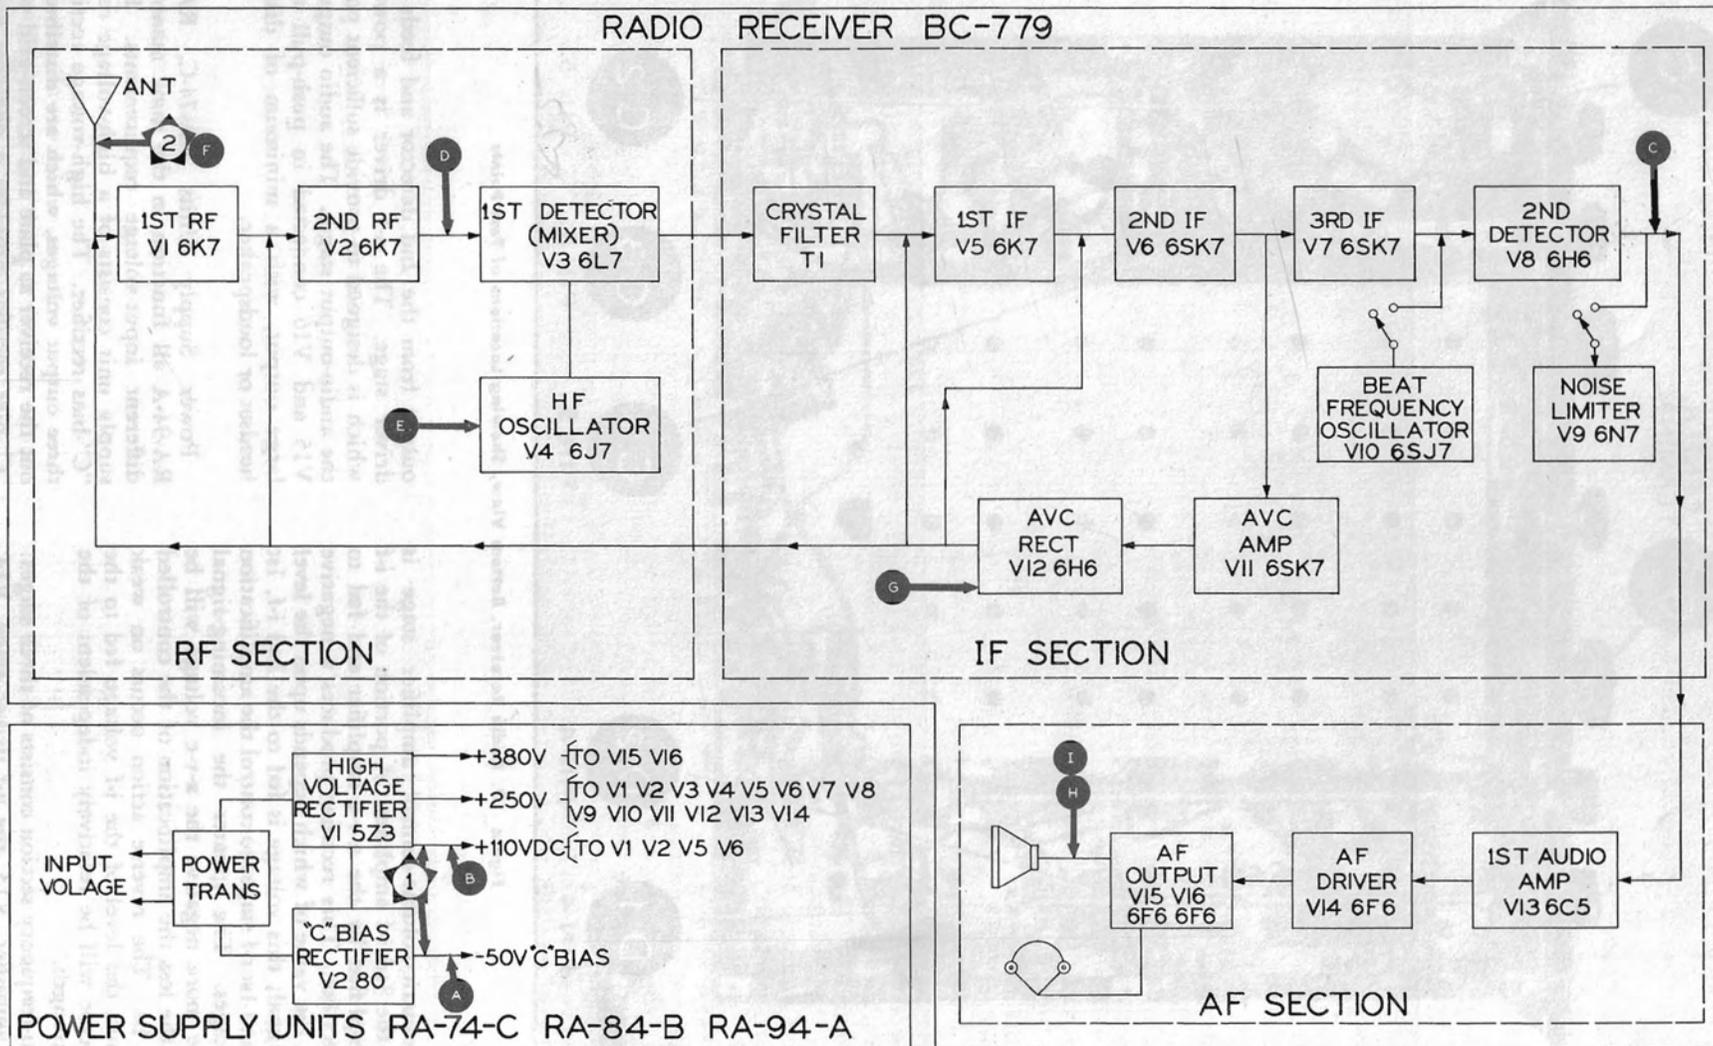

Figure 9. Radio Receiver and Power-Supply Unit, Functional Block Diagram
Radio Receiver BC-779-B is a superheterodyne, which will receive either modulated or unmodulated (c-w) signals. The over-all operation of the receiver and the functioning of the interrelated circuits can be understood best by the use of the functional block diagram shown in figure 9, in which the circuits are represented by functional blocks.
To simplify the explanation and to provide a clear understanding of the functioning of each circuit, the receiver is divided into its major functional sections, which are indicated by the dotted lines in figure 9.
To check the operation of the power-supply unit, a number of test points are used, as illustrated in figures 9 and 11. Major test point ① checks the operation of the high-voltage and "C"-bias rectifiers. Key test point A checks the operation of the "C"-bias rectifier, and key test point B checks the operation of the high-voltage rectifier.
5. Locate the functional circuits by using figure 9.